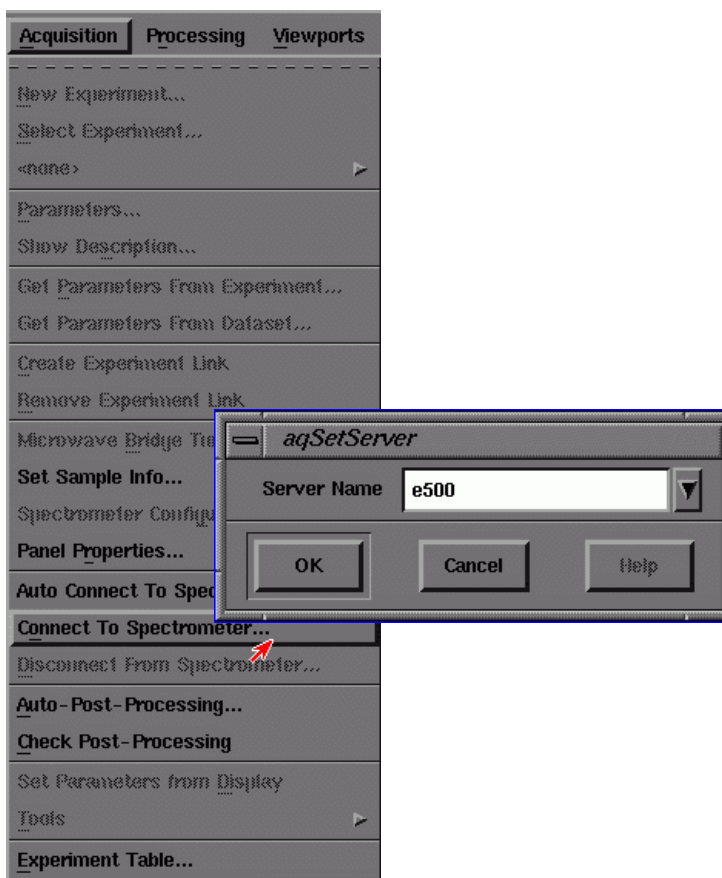

Figure 3-6 Connecting to the spectrometer.
7. **Connect to the spectrometer.** To control the spectrometer from the Xepr program you need to connect the workstation to the spectrometer. Click the Acquisition menu bar and then Connect to Spectrometer. A dialog box will appear with the Server Name: click OK. (See Figure 3-6.)